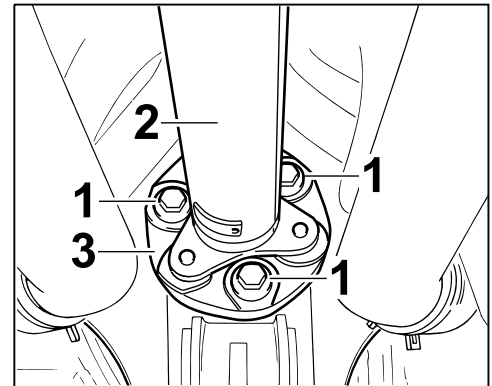

Figure 3
1.3.2 Remove hexagon-head bolt, M10 x 35 (3 x) on cardan shaft (⇒ *Figure 3*).